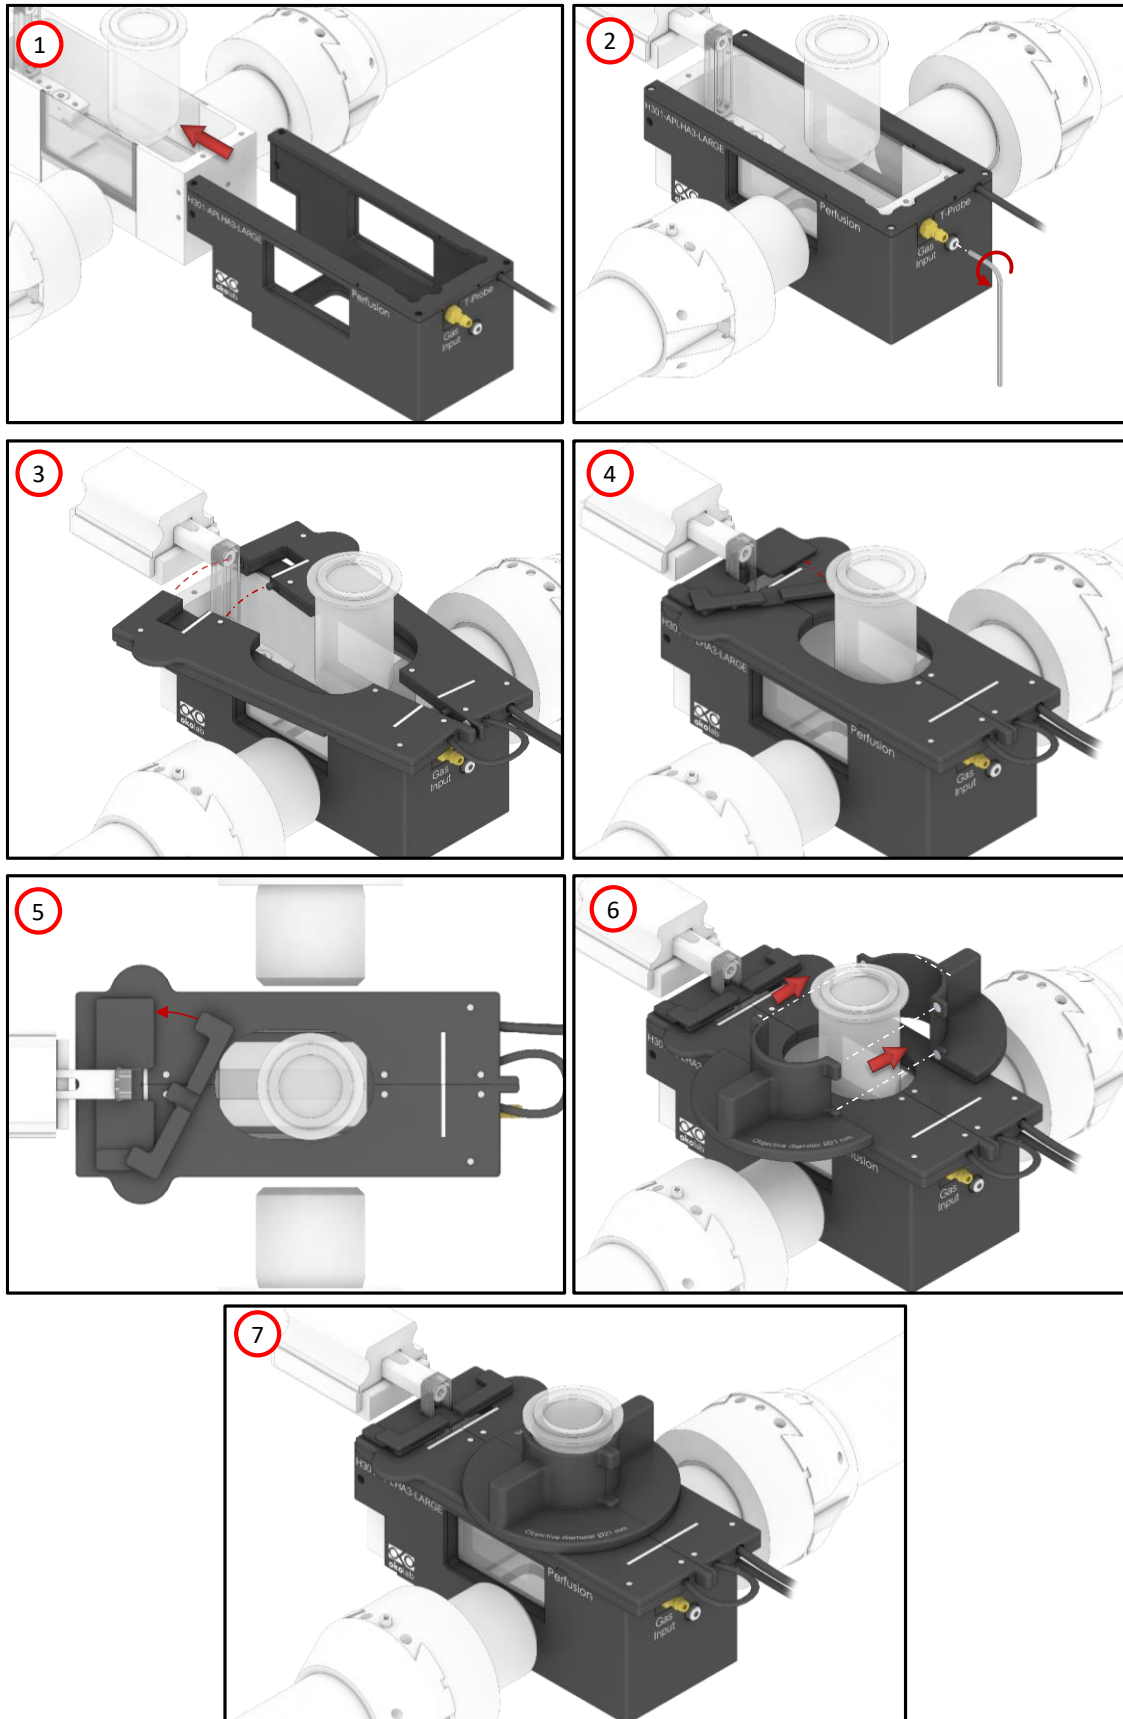

Figure 2. Chamber installation around the sample holder.
1. Insert the chamber base by sliding into place as shown in image 1 and 2 in Figure 2.
2. Tighten the captive screw M2 to fix the chamber base around the sample holder by using the provided 1.5 mm hexagonal key (see image 2 in Figure 2).
3. Place the magnetic lid on the chamber base (see image 3 in Figure 2).
4. Insert the sample arm cover (see image 4 in Figure 2), and close it (see image 5 in Figure 2). It allows to reduce the brightness into the sample.
5. Place the magnetic objective heater in place as shown in image 6 in Figure 2.